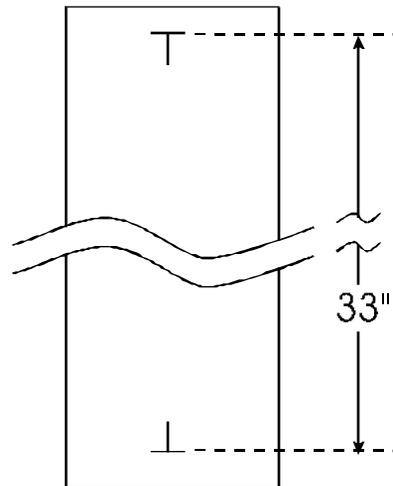

Figure 3-26. Paper Axis Test.
4. From the Calibration Menu, select "Paper Axis Test". This runs the paper axis test which prints out two "T" figures that are mirrored from each other and about 33" apart. See Figure 3-26.